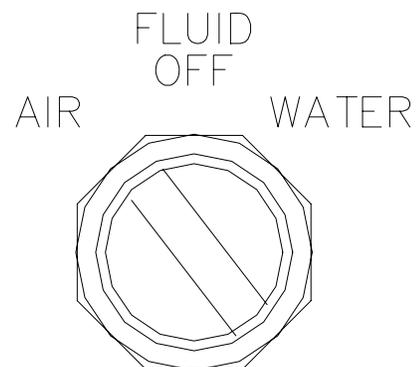

Figure 10: Fluid Selection Switch
3. Turn the fluid selector switch to the "Air" position (see Figure 10).
2. Turn the fluid selector switch to the “Air” position (see Figure 10).